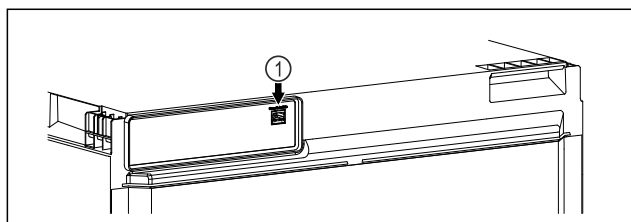

Fig. 17
- SmartModule Fig. 17 (1) has been inserted.